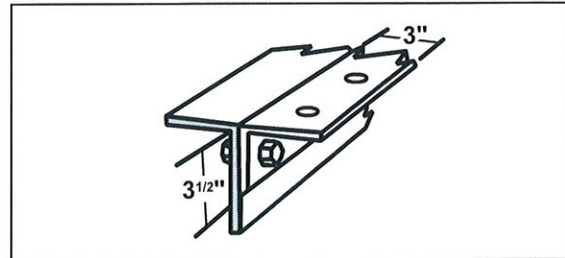

Fig. 2
3. Outboard angle iron installations require angles with a **minimum vertical leg of 3-1/2 inches** and a **minimum horizontal leg of three inches**. Longer horizontal legs may be required with narrow frame widths to ensure sufficient material around the mounting bolts. (See Fig. 2.)